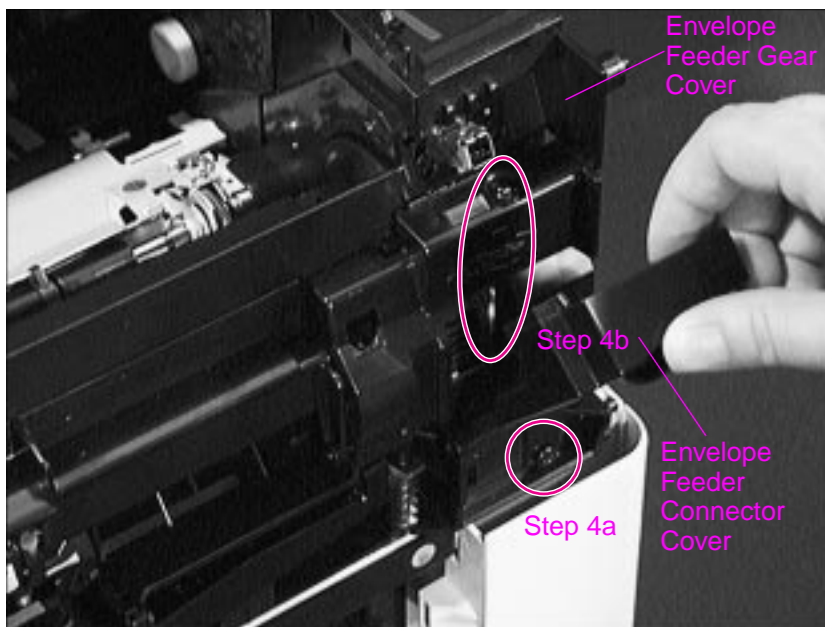
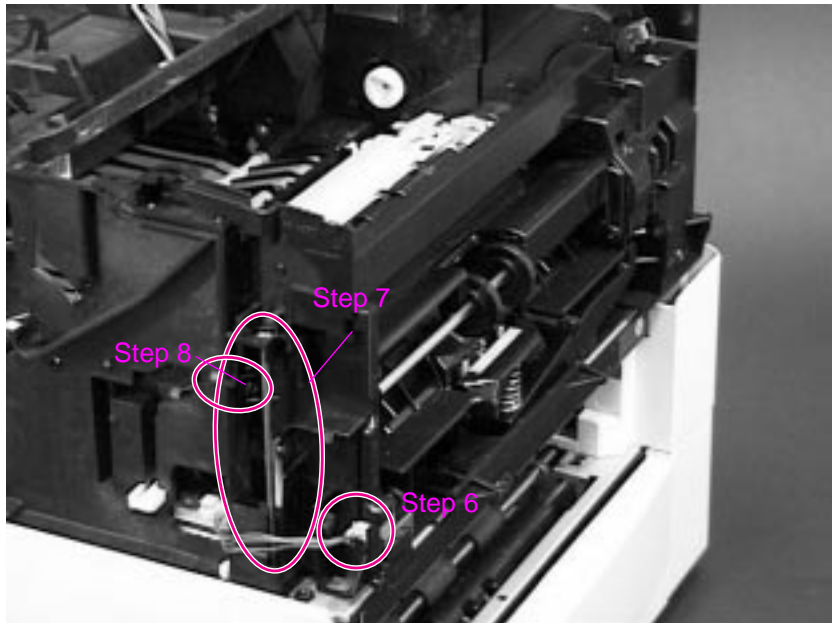

Figure 6-26
Figure 6-28 Removing the Tray 1 Pickup Assembly - Left Side
1. Remove the Rear Right Side Cover (page 6-6). Remove the Formatter Cage Assembly (page 6-20), Formatter Pan (page 6-39), and 2 long screws from the Tray 1 Pickup Assembly (See Figure 6-26 on page 6-29 and Figure 6-28 on page 6-31).